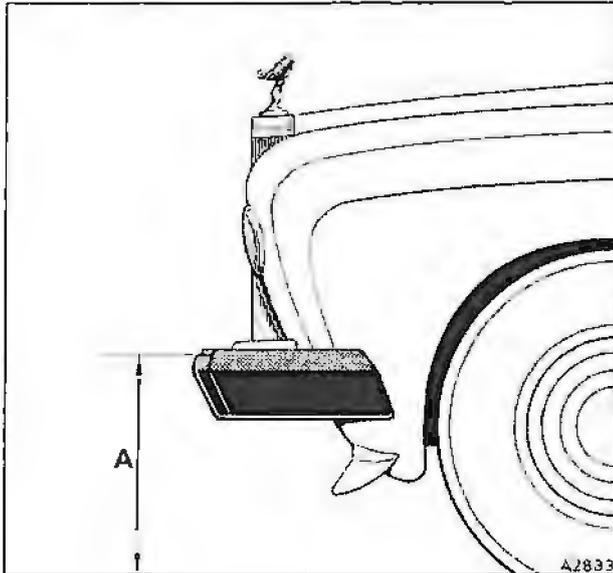

Fig. S25-3 Bumper height
Bumper height – To check (see fig. S25-3)
4. Measure the front and rear bumper height to the position indicated in figure S25-3.